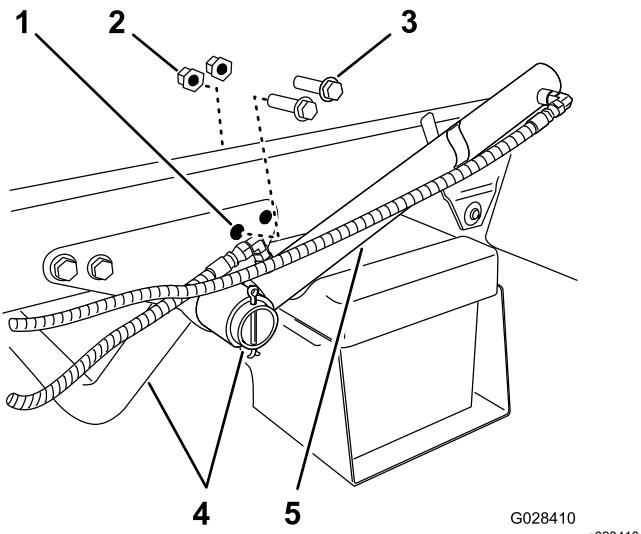

Figure 6
1. Remove the 2 rear flanged-head bolts and 2 flanged locknuts that secure the support bracket for the engine tube to the frame of the machine (Figure 6).
2. Rotate the lift cylinder to provide clearance to install the hold-down bracket for the tank skid (Figure 6).